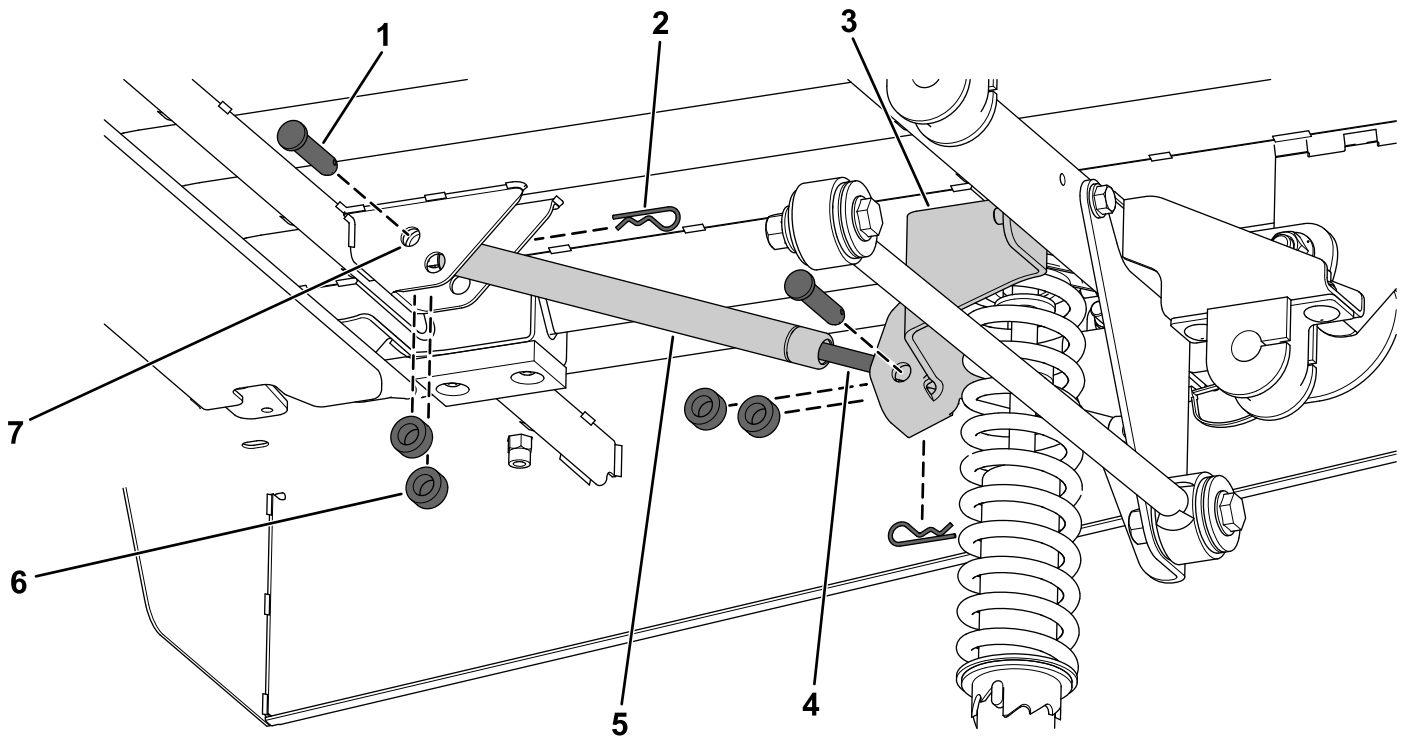

Figure 9
2. With the body side of the gas spring oriented toward the flat bed, secure the gas spring to the lift bracket using 2 clevis pins, 4 spacers, and 2 hairpin cotters (Figure 9).
Ensure that you use the inner set of holes on the flat bed when securing the gas spring as shown in Figure 9.